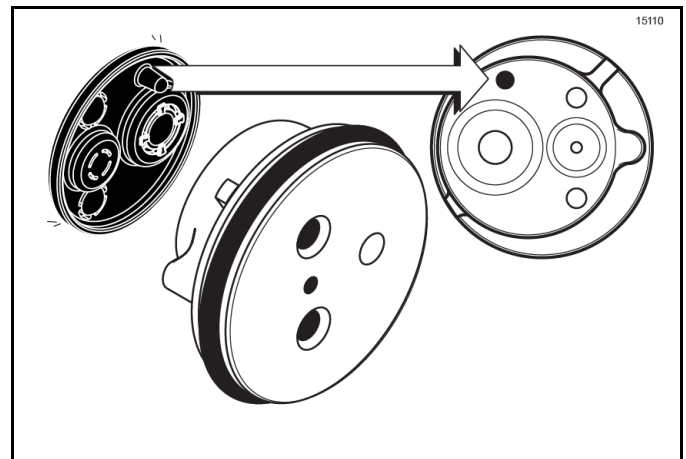

Figure-148
6. Slide the pump valve gasket into the holes on the cap. **Do not** lubricate the gasket. (See Figure-148.)